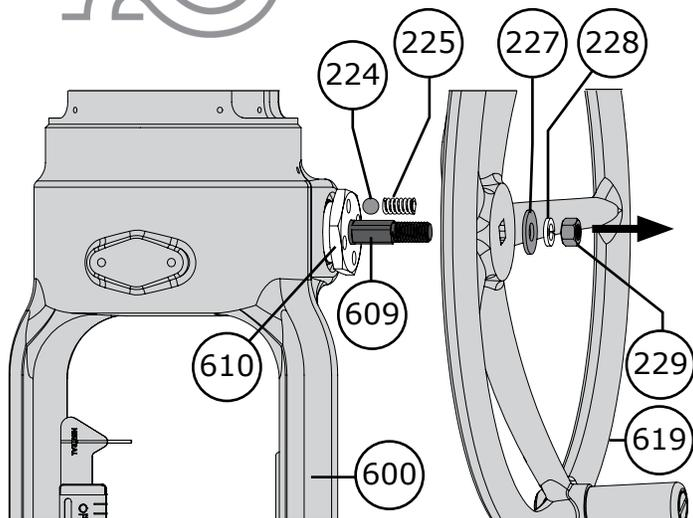

Figure 84 Handwheel Removal
- 20** Continue with the following disassembly instructions only if necessary (if parts are worn or damaged). Remove the handwheel nut (Key 229), lockwasher (Key 228), flat washer (Key 227), and the handwheel (Key 619). **CAUTION:** When removing the handwheel, DO NOT lose the ball (Key 224) or spring (Key 225). Refer to Figure 84.